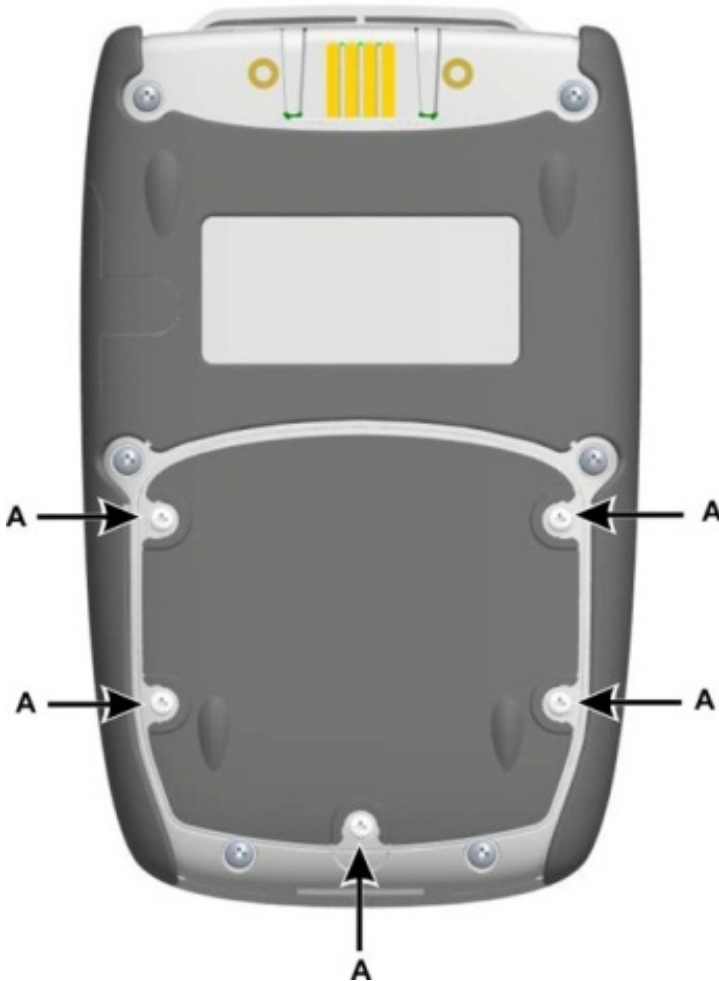

Figure 1-1
1. Remove the five Pozidriv screws (**A**) (Ref: Figure 1-1).